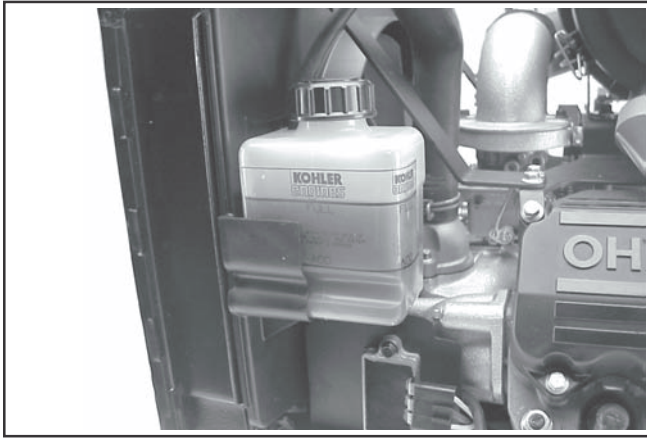

Figure 10. Coolant Levels on Reservoir.
1. Check the coolant level in the overflow reservoir. Coolant level should be between the "FULL" and "ADD" marks on the reservoir. See Figure 10. **Do not** operate the engine with the coolant level below the "ADD" mark.